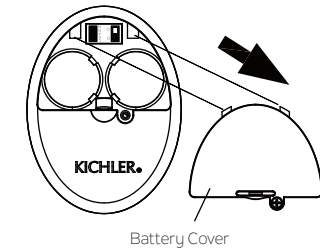

Fig. 23
Step 2. Using a screwdriver, remove the battery cover from the handset and save the screw for later use. (Fig. 23)